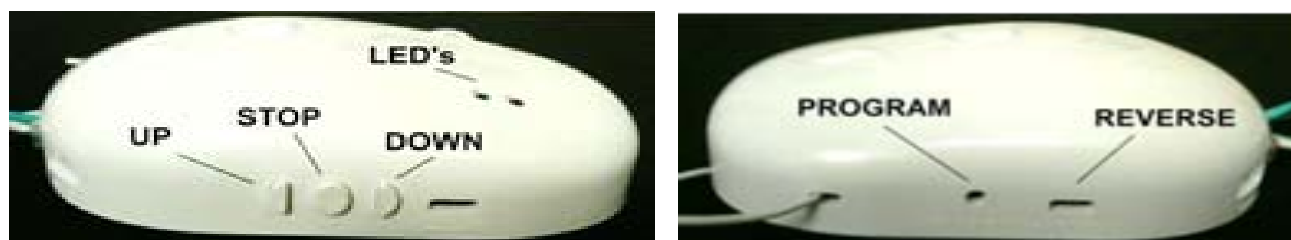

FIGURE 7
3. Press the PROGRAM button on the Receiver (GC136). The Green LED will start to flash (See Figure 7).
4. Press the STOP button on the Receiver (GC136). The Green LED will turn solid. (See Figure 7).